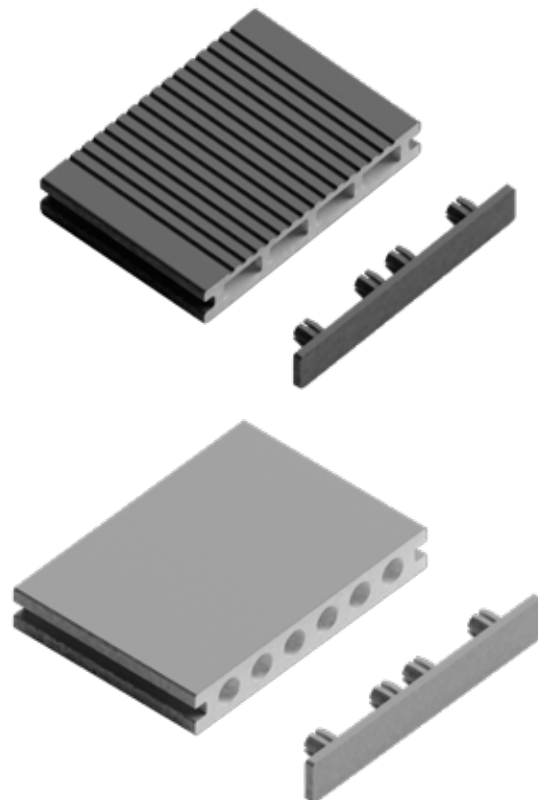

Figure 15
- 1 Place the fittings in the round holes of the floor, as shown in Figure 15: